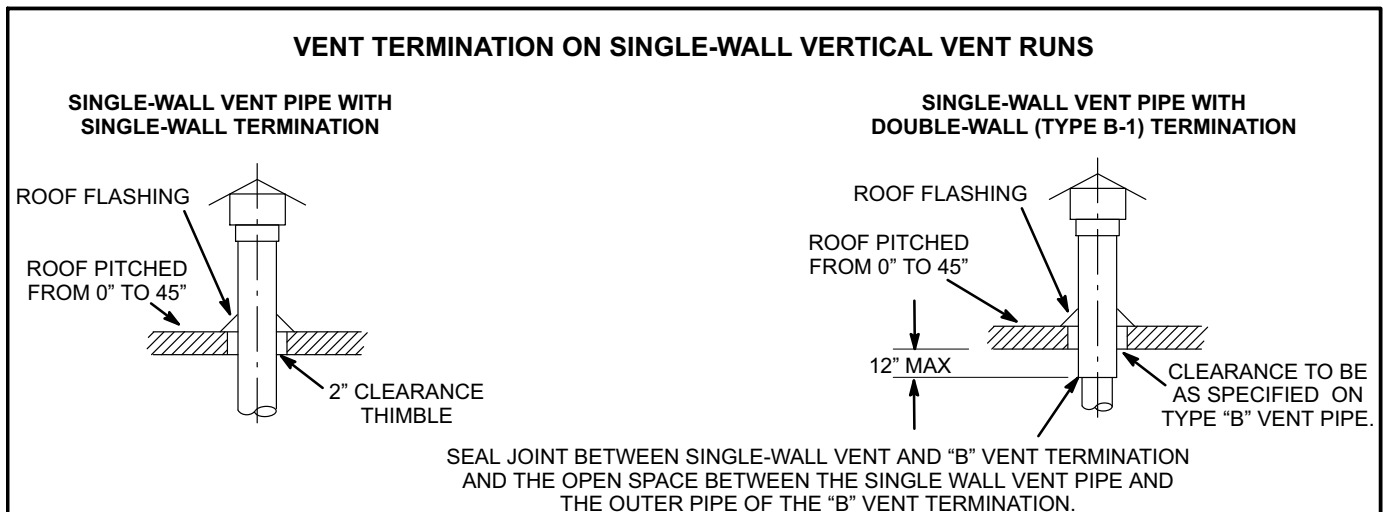

FIGURE 2
- 1 - All LF24 unit heaters are to be used with NFPA- or ANSI-approved chimneys or U.L.-listed type B-1 gas vents where applicable, as well as the modifications and limitations listed in figure 2. Seal single-wall vent material according to **General Recommendations and Requirements** section.